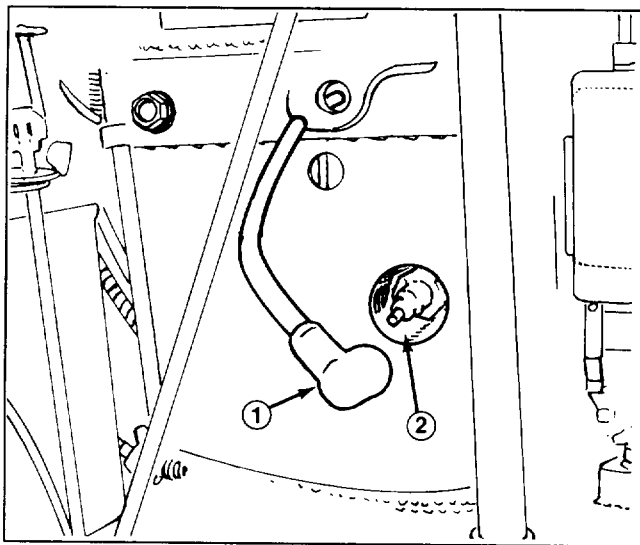

Figure 9
To prevent accidental starting of the engine while performing maintenance, shut engine off, remove key from ignition switch and pull wire off spark plug (Fig. 9). Make sure wire does not contact plug accidentally.
2. Stop engine and pull wire off spark plug (Fig. 9).